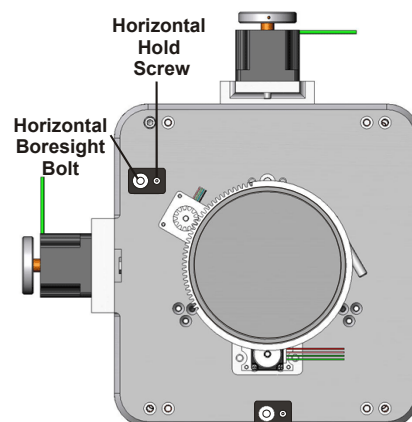
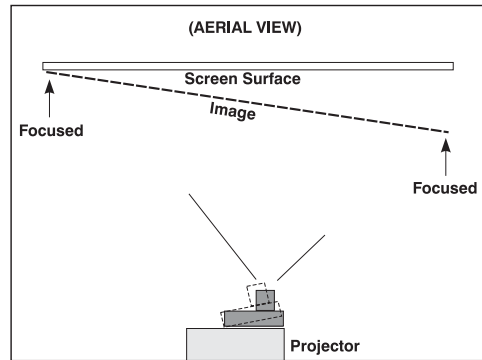

Figure 3-39 Horizontal Boresight
Figure 3-41 Aerial View Illustrating Misaligned Bore-sight
1. The Horizontal Hold Screw acts as counter-resistance to hold the lens mount in place once set. Before adjusting the boresight, loosen the **Horizontal Hold Screw**. See **Figure 3-39**.
- a. If the right side of the image comes into focus before the lens is completely retracted, then the image focuses in front of the screen. See **Figure 3-41**. To correct this problem, adjust the **Horizontal Bore-sight** bolt to direct or aim the lens mount towards the **LEFT** to balance out the left/right edges. See **Figure 3-39**.
7. Adjust the **Horizontal Hold Screw** to lock adjustments in place. Check boresight again. See **Figure 3-39**.